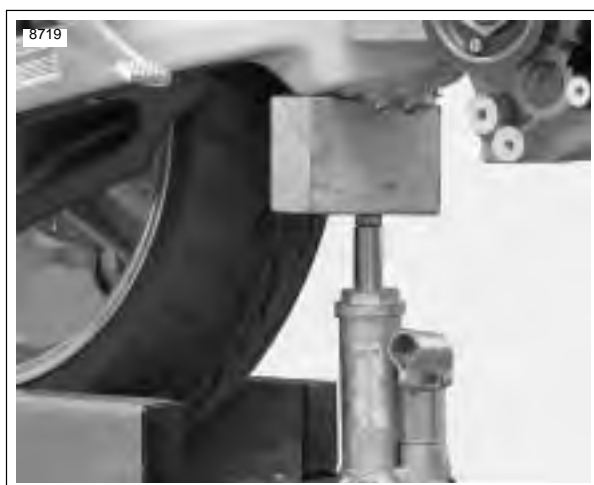

**Figure 3-22. Supporting Vehicle for Disassembly (Typical)**
- See Figure 3-22. At this point it is necessary to support main frame with overhead hoist in order to remove rear isolator bolt. Failure to do this will result in main frame dropping slightly.